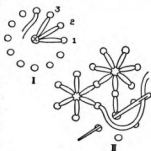

FIGURE 57
*Punch Work* (Figure 57). — Punch work is the joining of circles or squares so as to form a background of open work. A blunt needle is used. Make a plain knot and draw the blunt needle through the material at 1. Insert the needle at X and draw the needle out at 2.